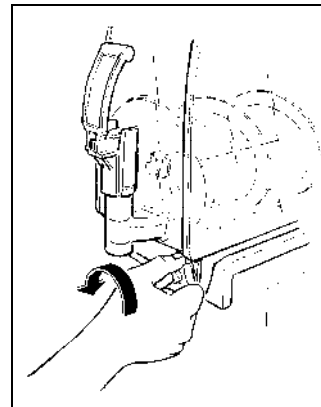

Fig. 14
- Unscrew and slip off the knobs (fig.14) then lower the bowl to eliminate any product residue through the dispensing tap.